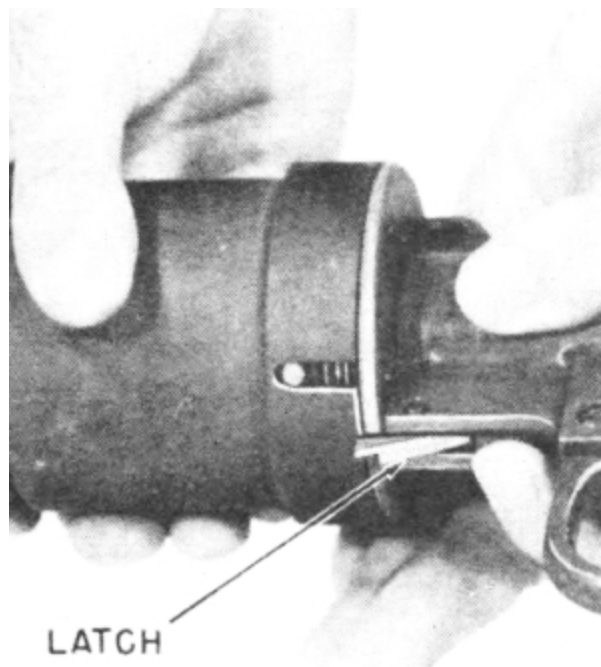

Fig 14. Unscrewing ignition shield, with pressure on latch.
- (1) Unscrew and remove ignition shield. (Fig 14)
(1) Point gun at the ground.
(2) Press latch. (Fig 14)
(3) Unscrew the ignition shield and allow ignition cylinder to fall out. (Be careful to keep the hands away from the front of the cylinder.)
(4) Save the partly used cylinder for training use or destroy it by firing from gun after fuel tanks have been emptied. For information on care, handling, and storage of cylinders, see Paragraph 31.